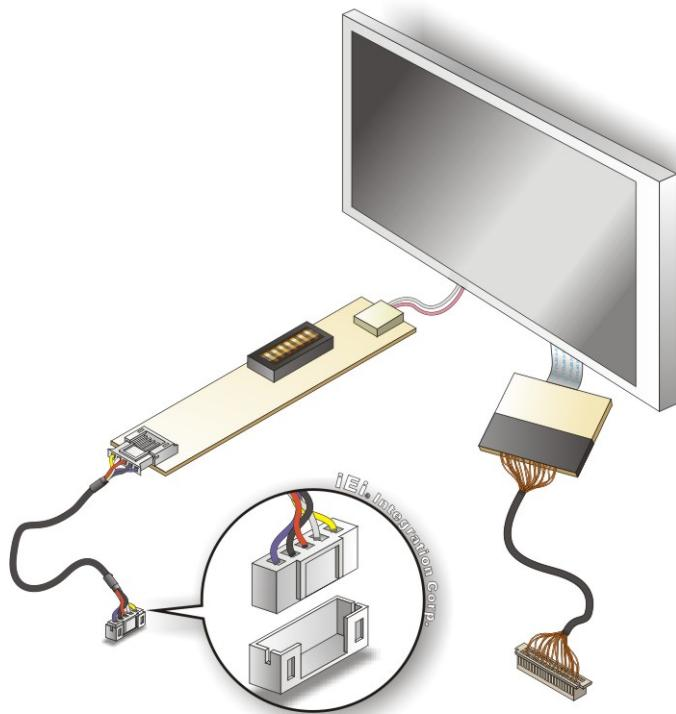

Figure 4-19: Backlight Inverter Connection
Step 4: Connect backlight connector. Connect the backlight connector to the driver TFT LCD PCB as shown in Figure 4-19. When inserting the cable connector, make sure the pins are properly aligned.